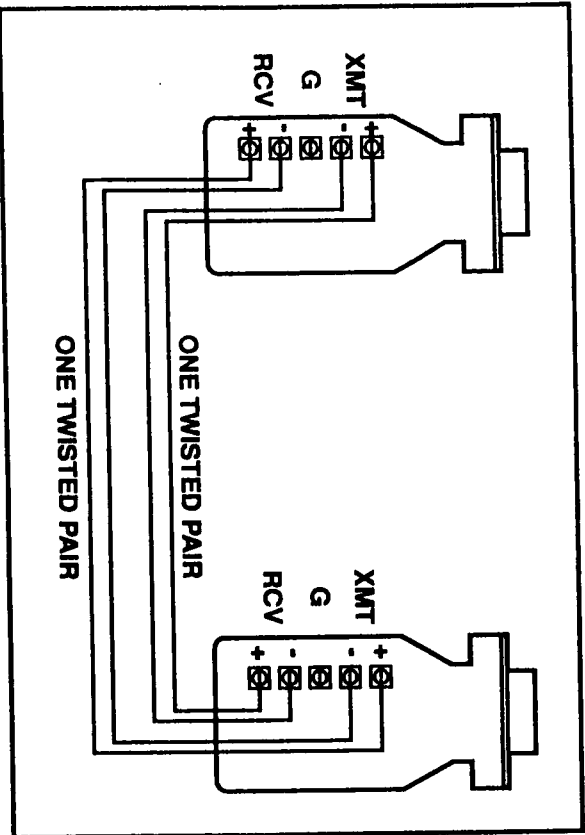

Figure 1. Microdriver Connection
4. Insert each wire into the proper terminal post and tighten the screw. Be careful to observe the polarity (see Figure 1). Connect the wires as follows: